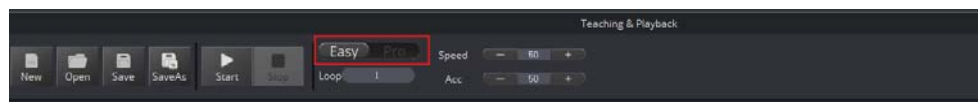

Figure 5.189 Switch advanced function
- Step 2** Click **Easy** icon on the **Teaching&Playback** page, as shown in Figure 5.189.